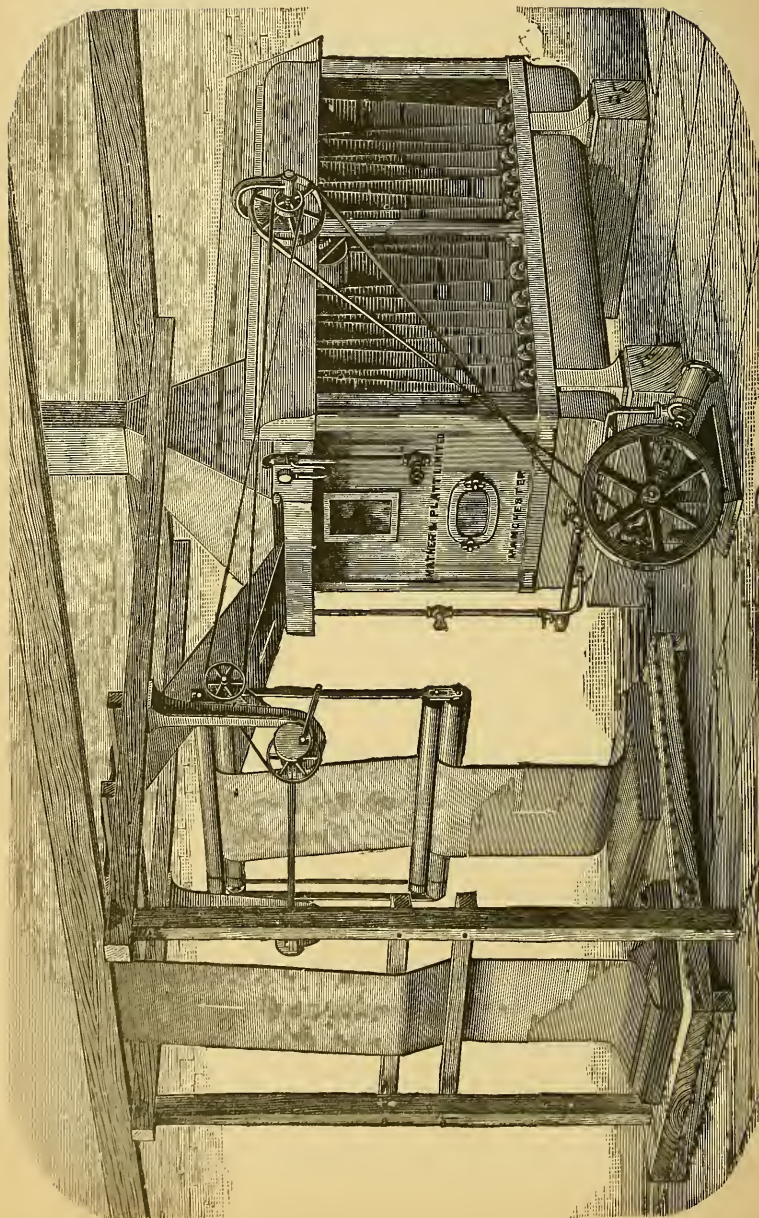

Fig. 55.—Aniline Ageing Machine.
**Printing on Turkey Reds.**—Some very fine effects are obtained by printing on Turkey reds. These prints being fast to all the ordinary influences of light and air, soap, dilute acids, and washing, their quality may be depended upon by purchasers, because they are the production of real indigo and alizarine red. The general process consists in hot watering the Turkey-red cloth thoroughly at a temperature of  $160^{\circ}$  Fahr., then drying and preparing in a solution of glucose at  $16^{\circ}$  Twaddle. The pieces are then padded in the printing machine with a good roller, dried as usual, and wound on for printing; this part of the operation in printing is in blue, dark or light, or blue and white. After printing they are properly dried, care being used that over-drying does not take place. They are aged in an aniline-black machine (Fig. 55) in an abundance of steam from 60 to 80 seconds. Afterwards the cloth is hung for a night in a cool room, well washed in cold water, squeezed, passed through sulphuric acid at from  $6^{\circ}$  to  $8^{\circ}$  Twaddle, and again washed in cold water until all traces of the acid are removed; the soaping is done at a 10 minutes' boil, squeezed dry, and finished. The fabric is passed through sulphuric acid (vitriol) to erase the alizarate of soda underlying the blue and white portions of the pattern. The caustic soda in blue and white colours, on steaming, decomposes the alizarine red lake, forming aluminate and alizarate of soda, which, though soluble, cannot be washed out without considerable difficulty; at all events, by the action of cold water only traces will remain. On running the cloth through vitriol the aluminate and alizarate salts are decomposed, and every atom is then washed out with ease.